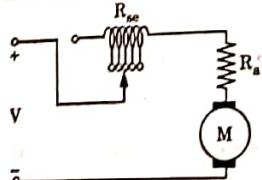

Fig. 3.7.3. Tapped series field on DC motor.
- b. The second method uses a tapped field control as shown in Fig. 3.7.3. Here the ampere-turns are varied by varying the number of field turns. This arrangement is used in electric traction.